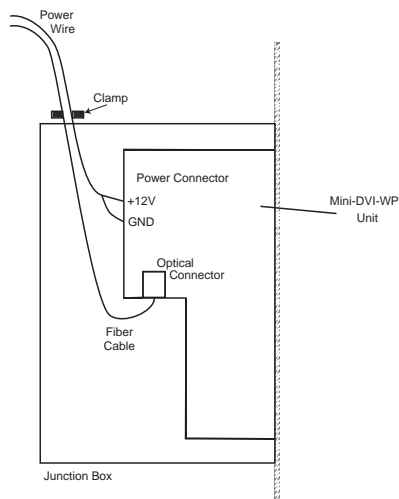

Figure 2-4
1. As shown in Figure 2-4, feed both fiber and power cables through the opening of the wall box, and secure the cables with cable clamps to provide strain relief.